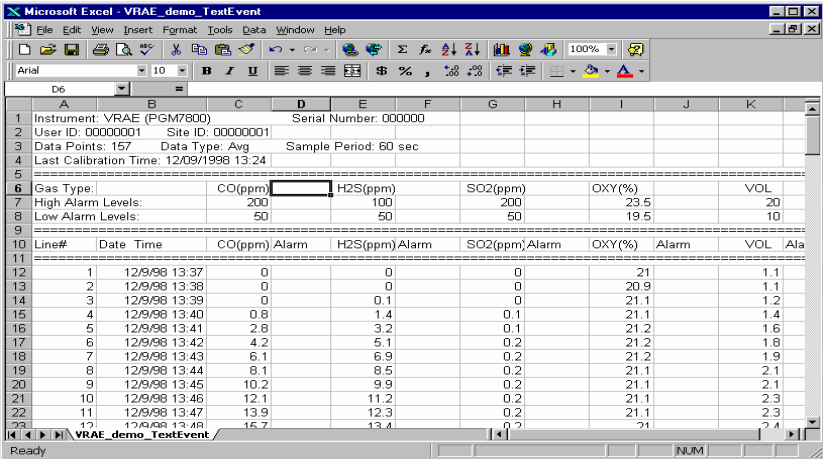

Figure C-4 File TextEvent.txt is Open
- Click **Finish** button, the dialog box disappears and the event data is loaded into the MS-Excel software, as shown in Figure C-4.